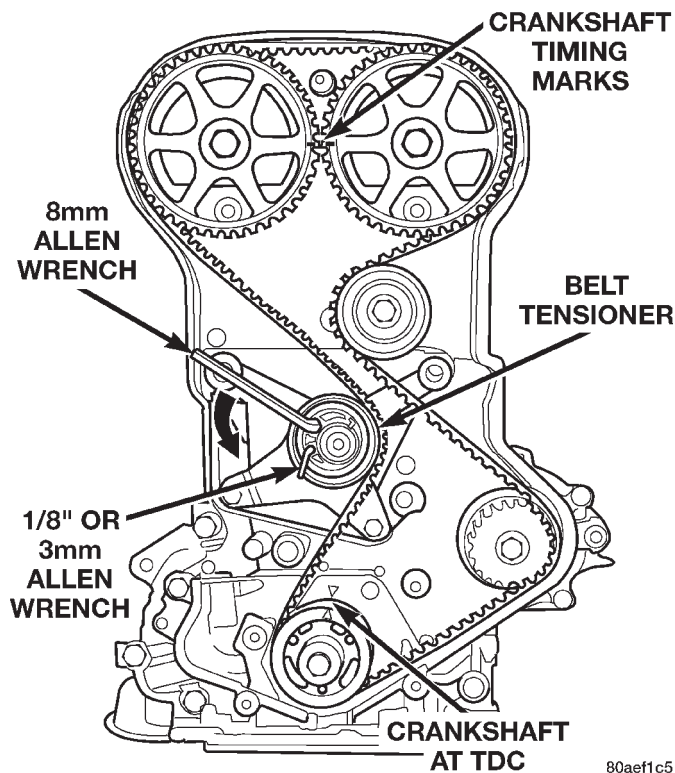

Fig. 52 Timing Belt—Removal
(8) Align camshaft timing marks and crankshaft timing mark with arrow on oil pump housing (Fig. 52).
(9) Install a 8 mm Allen wrench into the timing belt tensioner. Insert the long end of a 1/8" or 3 mm Allen wrench into the pin hole on the front of the tensioner.
(10) Rotate the tensioner counterclockwise with the Allen wrench, while pushing in lightly on the 1/8" or 3 mm Allen wrench, until it slides into the locking hole.
(11) Remove timing belt.